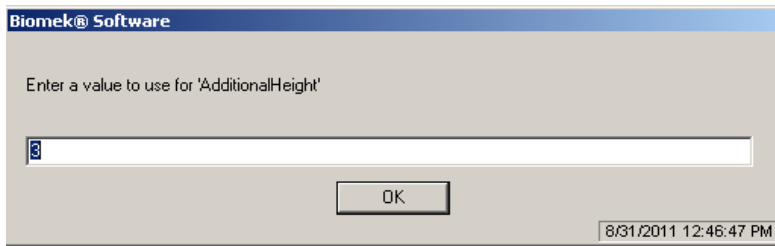

Figure 5. Pod 1 z-axis position.
- 13 The next prompt is asking by how much the user should change the Pod1 z-axis position (Figure 5). The default is 3 and it is in cm. Do not change this value and just click OK.